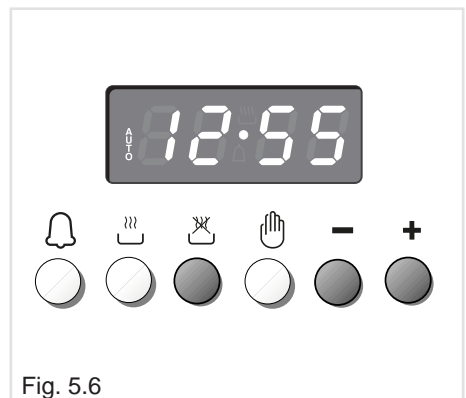

Fig. 5.6
2. Set the end of the cooking time by pressing the  button (the cooking time already added to the clock time will appear), and the  button (fig. 5.6); if you pass the desired time you may get back by pushing the  button. After this setting, the  symbol will disappear. If after this setting, the **AUTO** flashes on the display and a buzzer sounds, it means there was an error in the programming, that is that the cooking cycle has been superimposed on the clock. In this case, modify the end of cooking time or the cooking period itself by following again the above mentioned instructions.